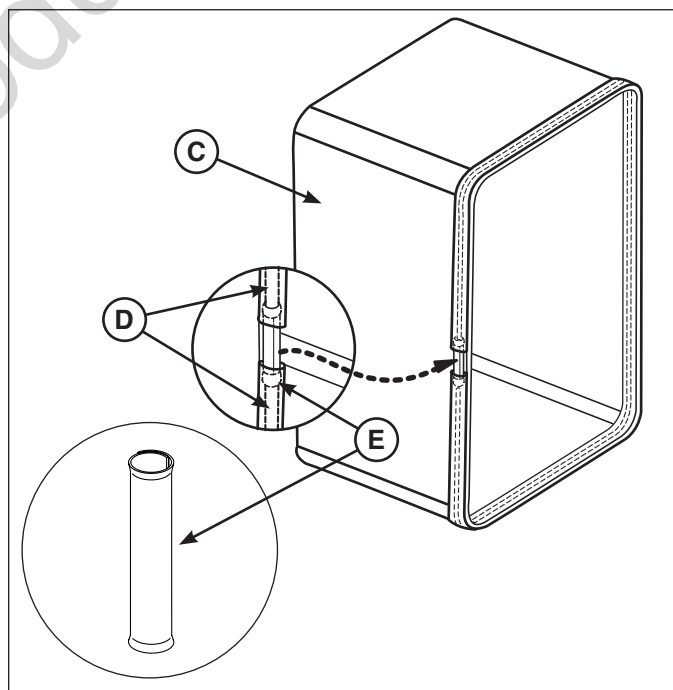

Figure 3
2. Stand the grass bag assembly (C, Figure 3) on end.
3. Secure the rod ends (D) with the connector (E).